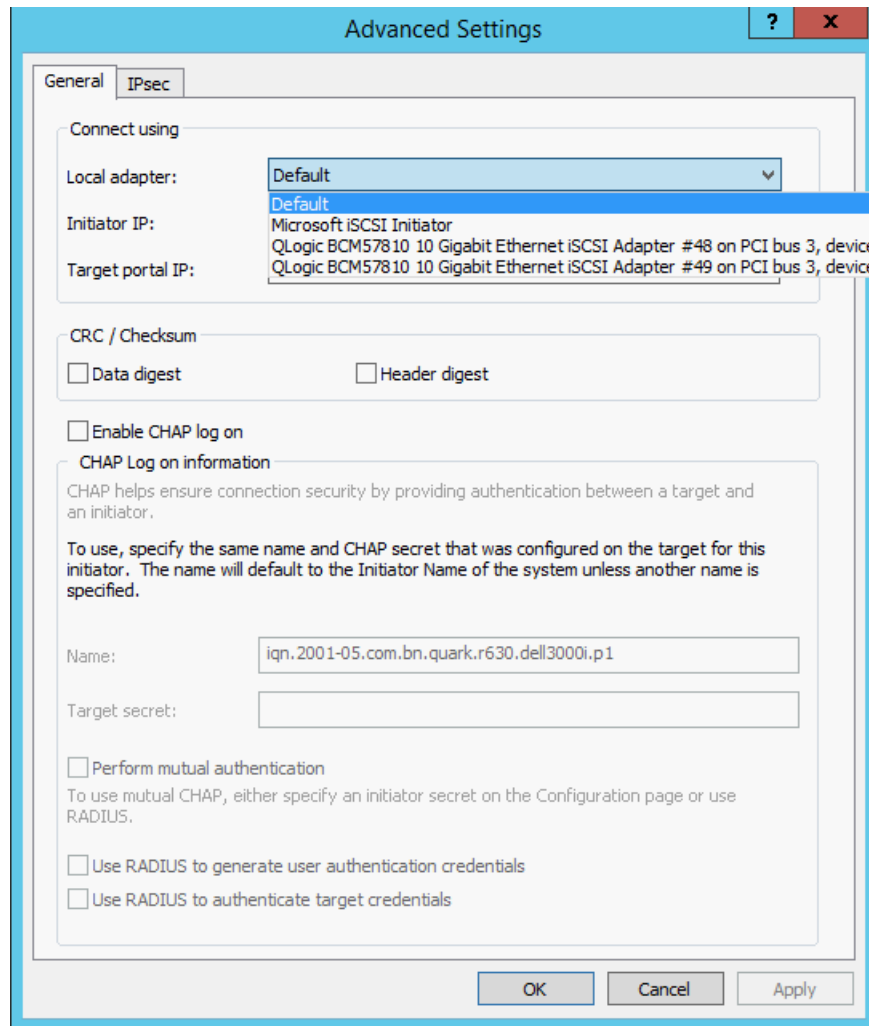

Figure 11-15. Advanced Settings: General Page, Local Adapter
11. On the Advanced Settings dialog box, General page, select the Marvell 57xx and 57xxx C-NIC iSCSI adapters as the **Local adapter**, and then click **OK**. Figure 11-15 shows an example.